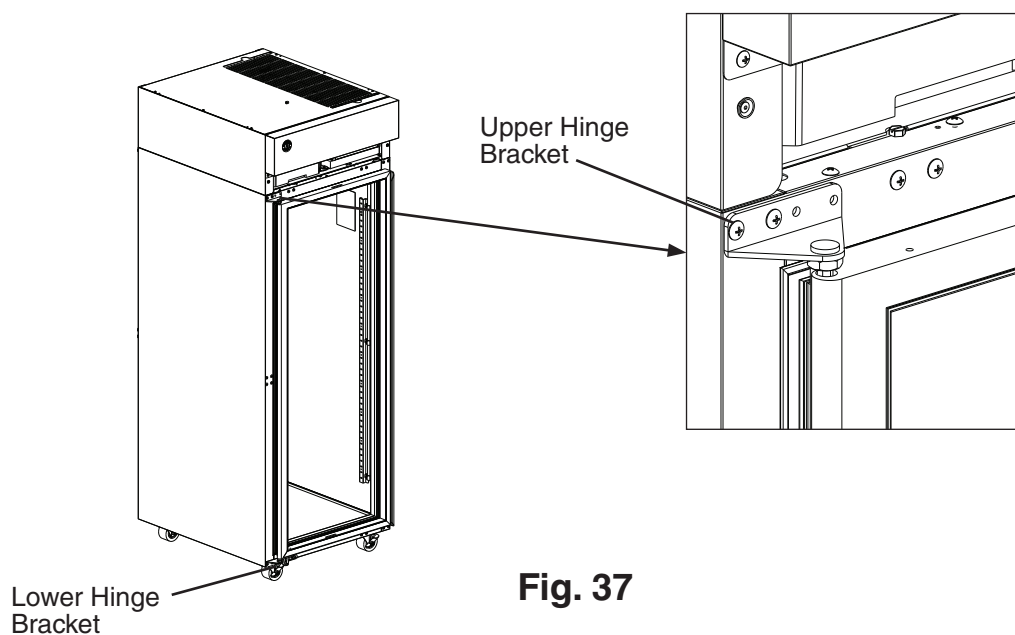

Fig. 37
- 17) Place the door on the lower hinge bracket in the closed position, then secure the upper hinge bracket to the cabinet. See Fig. 37.